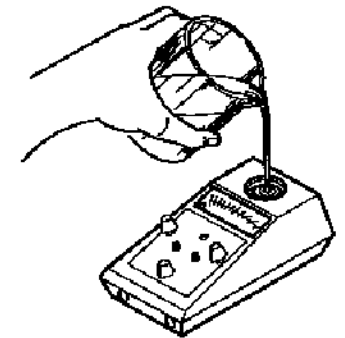

Fig. 6, Water sample reading
2) Take a sample of the cooling water and measure with a calibrated hand held meter. Note reading. (See Fig. 6)